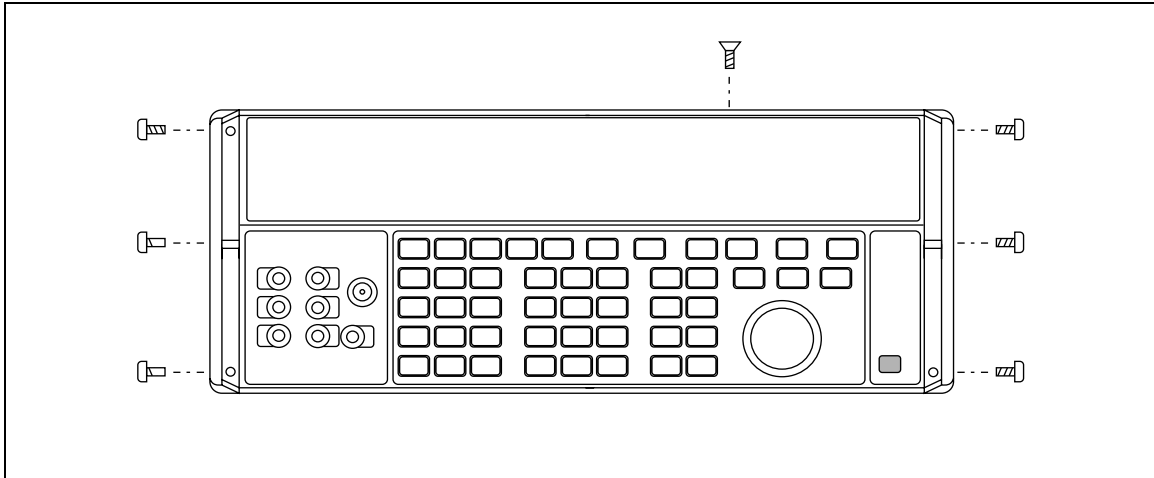

Figure 4-4. Front Panel Removal
Refer to Figure 4-4 during the following procedure:
2. Remove the instrument front panel by removing the three hex screws on each front handle side and a single screw on the top of the front panel. See Figure 4-4 for screw locations. By grasping the handles gently pull the front panel away from the frame and lay it on its handles in front of the instrument.